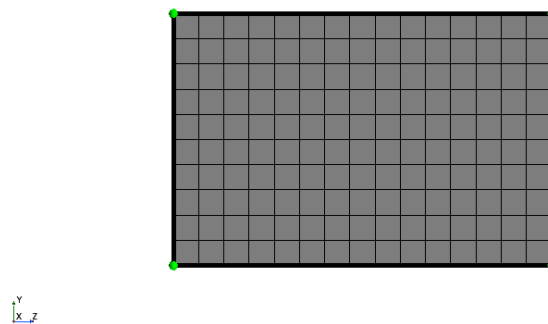

Figure 27: Patch mesh of source surface.
10. Once both actions are completed correctly, the mesh on the source surface should appear in the *Display Window*. When the mesh looks similar to the mesh in Figure 27, click on **Close** to close the surface mesh.